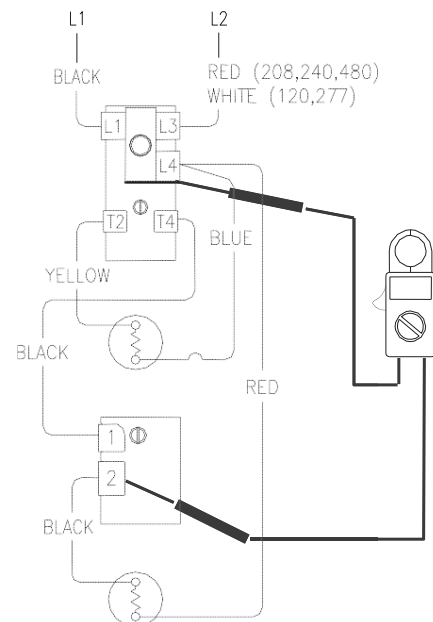

Figure 12
9. Check voltage across terminal L4 of upper thermostat and terminal 2 of lower thermostat (see Figure 12).
5. Check across terminals L4 and 2 of lower thermostat (see Figure 12).